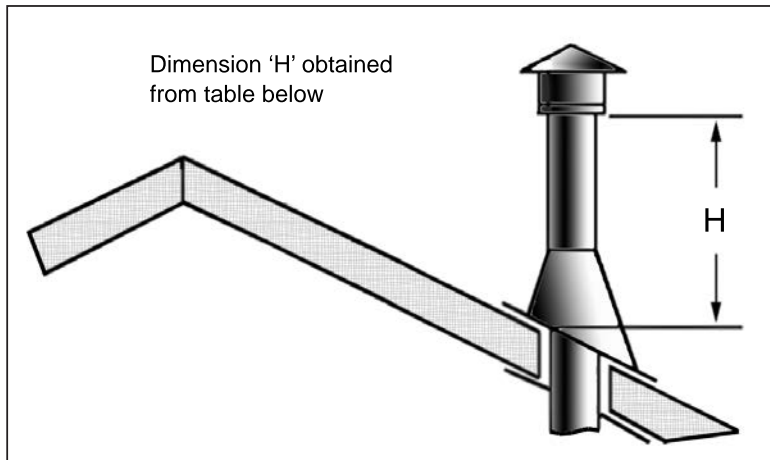

Figure 70: Height of Vertical Termination; Reference Table 8
- Step 4.** Measure roof pitch. Select the proper flashing and storm collar and determine the height above the roof (see Figure 70). A non-corrosive pipe material must be used for all exterior pipe lengths. Seal nail heads with silicone.
Table 9: Minimum 'H' for Figure 70.